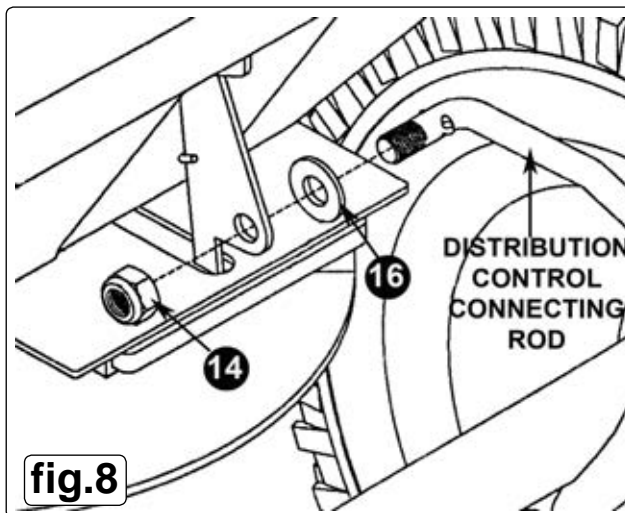

fig.8
- 4.12. Attach a Ø8 flat washer (16) over the loose end of the adjustable connection rod and insert the rod through the hole in the fixing plate at the base of the hopper and secure with a M8 lock nut (14) as shown in figure 8.